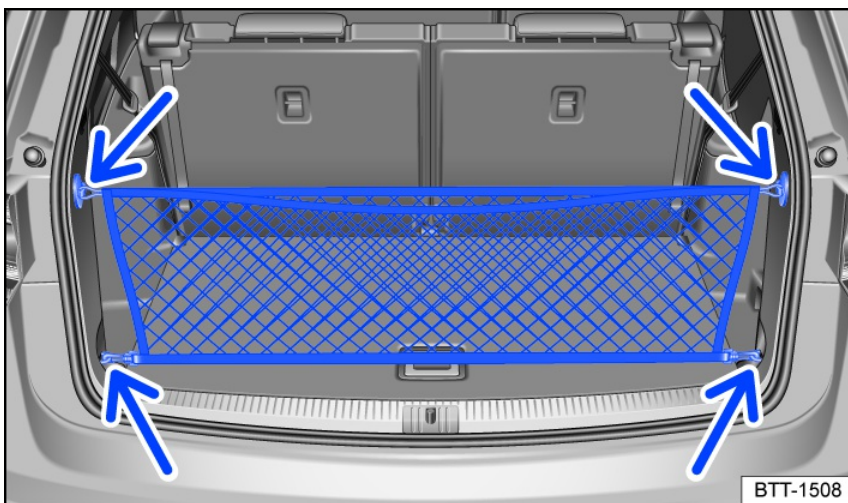

Fig. 164 In the luggage compartment: luggage net secured on the loading edge.
1. Secure the hooks in the luggage net to the tie-downs on the loading edge *fig. 164* (bottom arrows) ⇒ ⚠. The zipper on the luggage net must face upward.